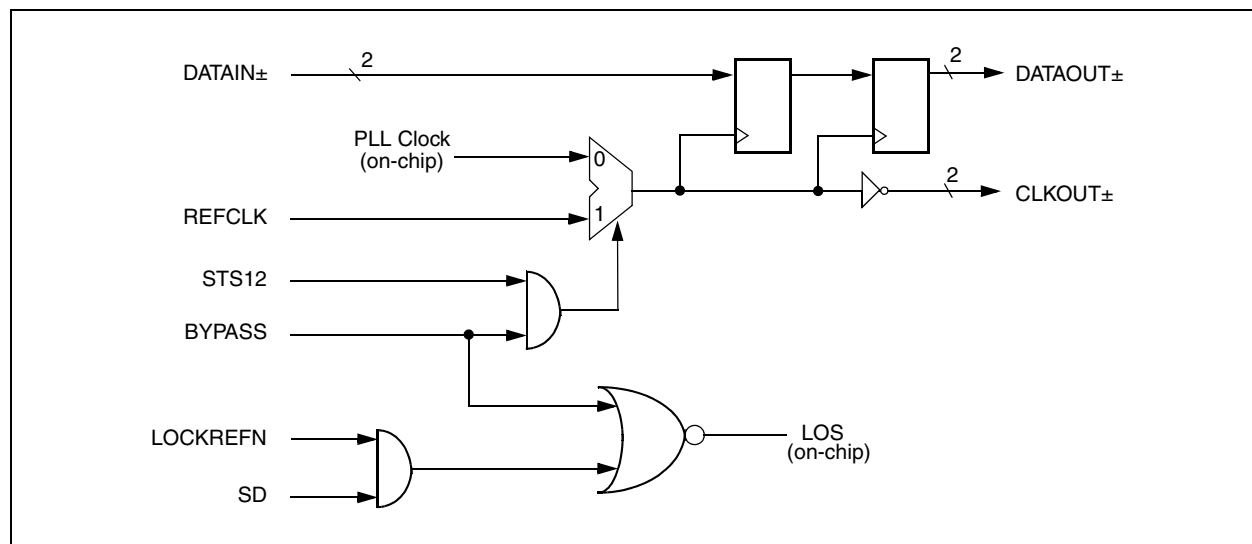

Figure 1. Control Diagram for Signal Detection and PLL Bypass Operation
The VSC8115 has a signal detect (SD) input and a lock-to-reference (LOCKREFN) input. The SD pin is a LVPECL input and the LOCKREFN pin is a LVTTTL input. These two control pins are used to indicate an LOS condition and are connected inside the part as shown in Figure 1 on page 3. If either one of these two inputs goes LOW and BYPASS is LOW, the VSC8115 will enter a Loss of Signal (LOS) state, and will hold the DATAOUT $\pm$  output at logic LOW state. During the LOS state, the VSC8115 will also hold the output clock CLKOUT $\pm$  to within  $\pm 500$  ppm of the REFCLK. See Table 1 on page 3.